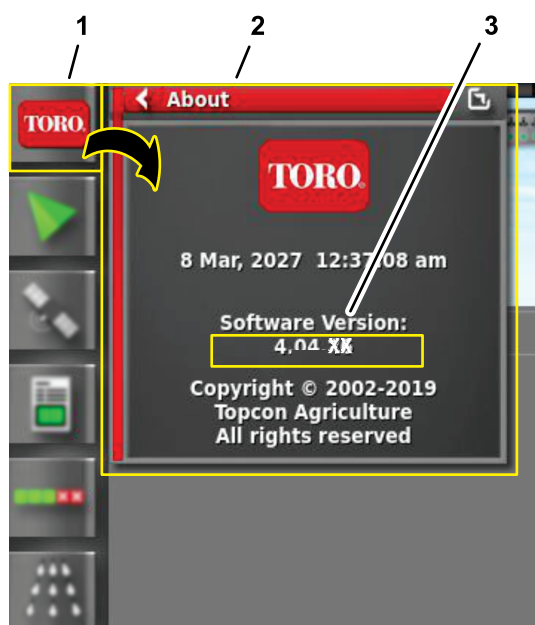

Figure 97
- Press the ABOUT (Toro) icon at the upper left corner of the control console (Figure 97).